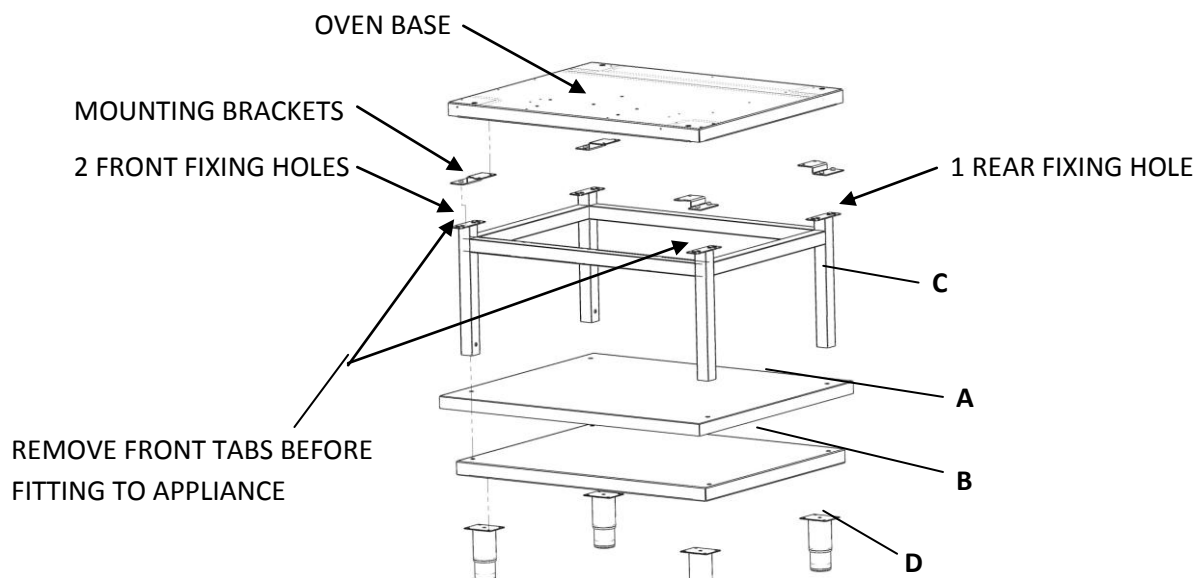

Figure 1
- b) Assemble stand (see Figure 1) using the following procedure:
1. Position bottom shelf (A) over frame (B) and secure stand legs (C) to frame (B) using M8 fixings to secure from below.
2. Fit adjustable legs (D) to frame (B) using M6 fixings provided.
4. Lift oven carefully upon stand and ensure mounting brackets are secured to oven base, lined up with the leg top brackets. Secure oven to stand using M6 fixings through holes indicated in Figure 1.